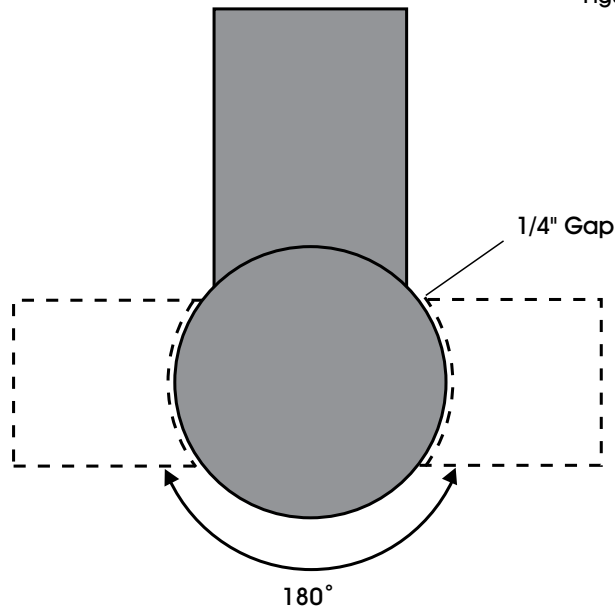

Figure 1
3. If the OPTIONAL ramp (H-1676) is purchased: Select a ramp position as illustrated below. The ramp can be positioned anywhere in a 180° rotation around the front of the turntable. There should be a 1/4" gap between the turntable and the ramp. The ramp should be fully supported by the floor. (See Figure 1)